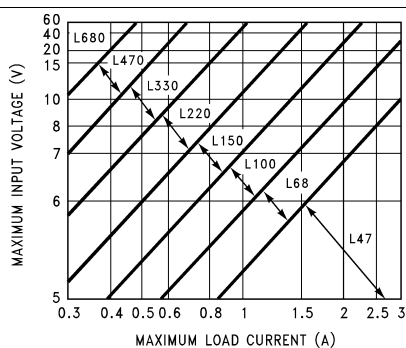
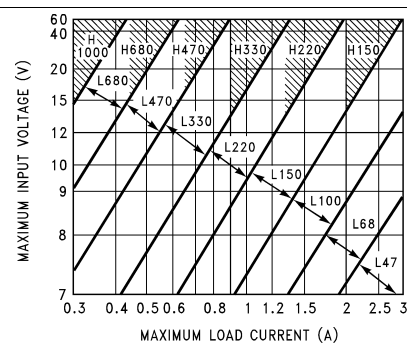
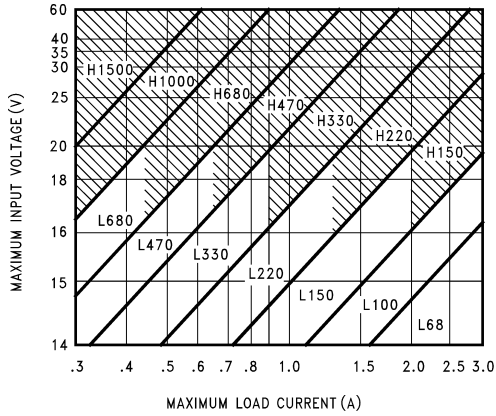
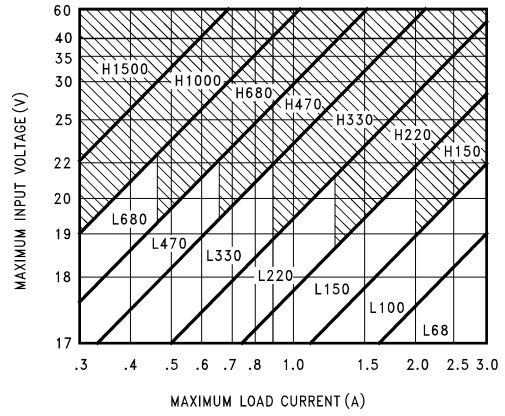

Figure 27. LM2576(HV)-3.3
Figure 28. LM2576(HV)-5.0
Figure 29. LM2576(HV)-12
Figure 30. LM2576(HV)-15
The inductor value selection guides in Figure 27 through Figure 31 are designed for buck regulator designs of the continuous inductor current type. When using inductor values shown in the inductor selection guide, the peak-to-peak inductor ripple current is approximately 20% to 30% of the maximum DC current. With relatively heavy load currents, the circuit operates in the continuous mode (inductor current always flowing), but under light load conditions, the circuit is forced to the discontinuous mode (inductor current falls to zero for a period of time). This discontinuous mode of operation is perfectly acceptable. For light loads (less than approximately 300 mA), it may be desirable to operate the regulator in the discontinuous mode, primarily because of the lower inductor values required for the discontinuous mode.
1. Select the correct Inductor value selection guide from Figure 27, Figure 28, Figure 29, or Figure 30. (Output voltages of 3.3 V, 5 V, 12 V or 15 V respectively). For other output voltages, see the design procedure for the
adjustable version. Use the selection guide shown in Figure 28.
- Identify the inductor value from the inductor code, and select an appropriate inductor from the table shown in Figure 27. Part numbers are listed for three inductor manufacturers. The inductor chosen must be rated for operation at the LM2576 switching frequency (52 kHz) and for a current rating of $1.15 \times I_{LOAD}$. For additional inductor information, see Inductor Selection. Inductor value required is 100 μH from the table in Figure 27. Choose AIE 415-0930, Pulse Engineering PE92108, or Renco RL2444.